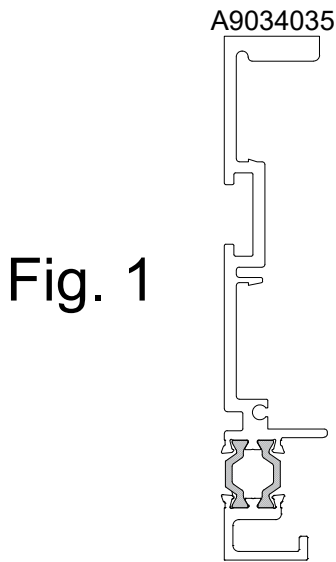

Fig. 1
Step 2: If sun shade bracket assembly is to be installed at end jambs, then A9034084 must also be machined as shown below in Fig. 1.